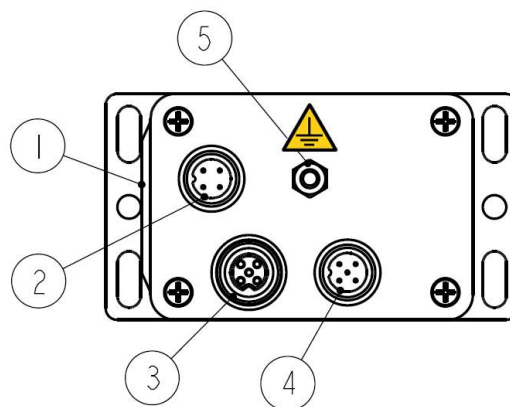

Figure 2: Electrical connections
4.1 Ground connection (Figure 2)
4.2 M12 connectors (Figure 2)